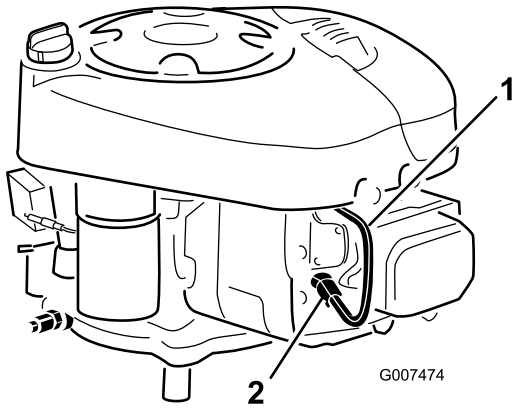

Figure 26
- Reach under the body of the machine above the left rear wheel and disconnect the wire from the spark plug (Figure 26).
- Connect the wire to the spark plug (Figure 26).